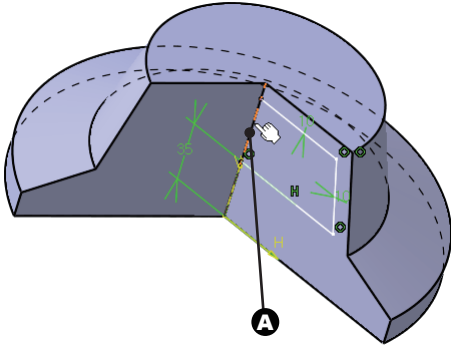

Fig 6-28 Axis
2. Select the edge **A** shown in Fig 6-28 as the axis.